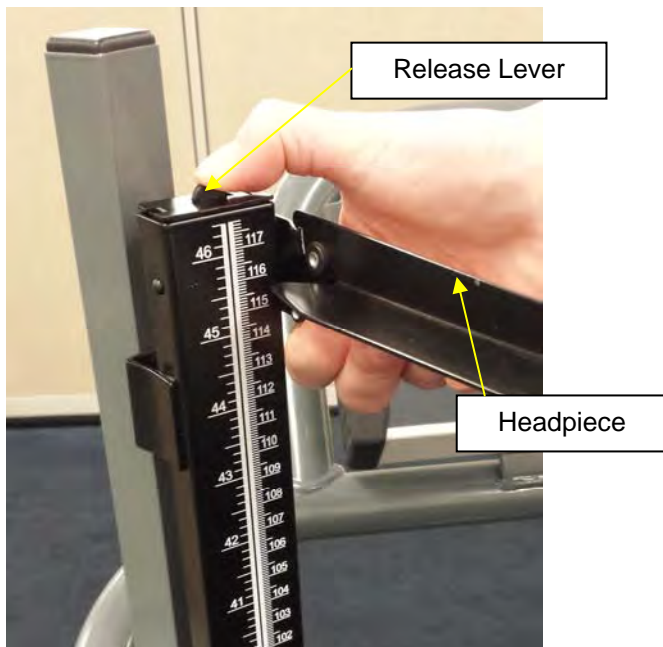

Figure 12
5. To move the headpiece below 46 3/8", grasp the headpiece and push down the release lever at the top of the height rod. (See Figure 12)